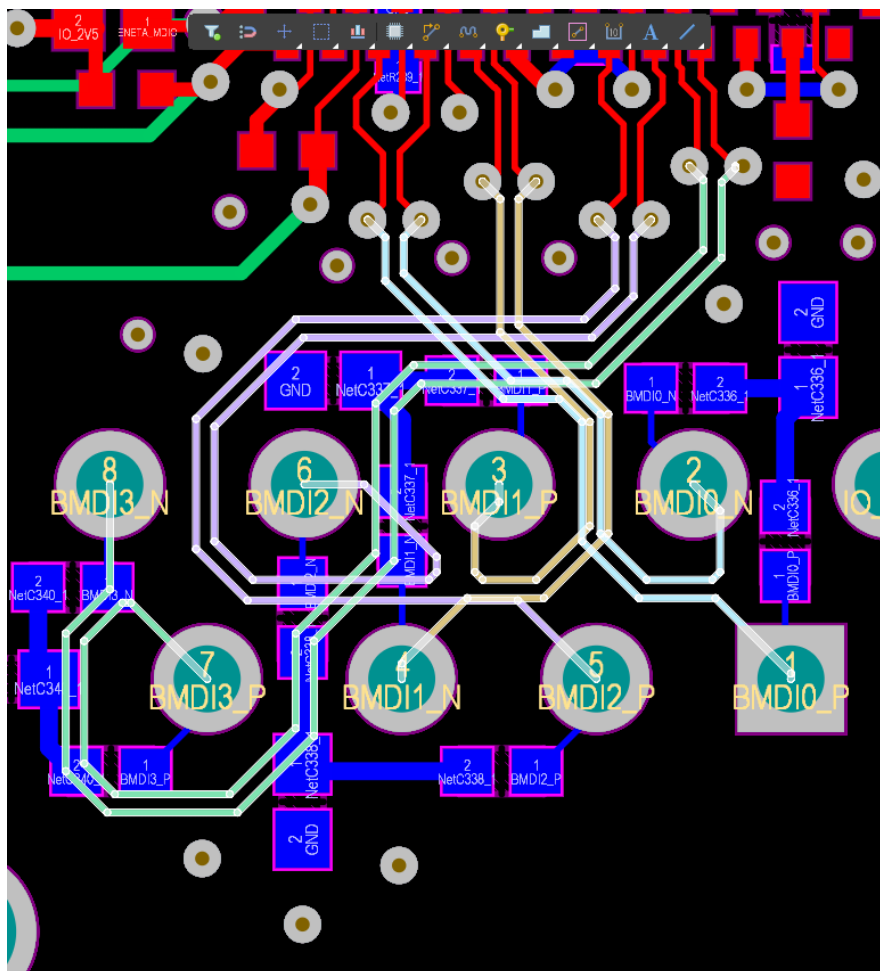

Figure 3. Reference for Differential Pairs selection
- c) Add the Differential Pairs from the `U20` to `J1,0` routed on the Inner Layer. See Figure 3 as reference for the four Differential Pairs you add to the existing selection.